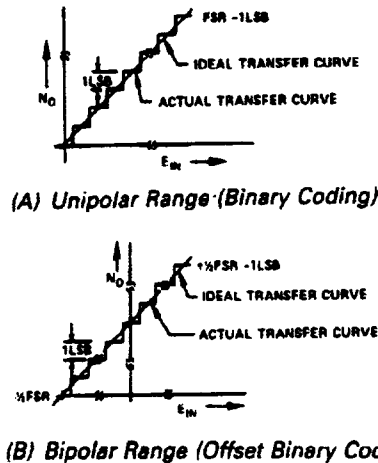

Figure 3. Unipolar and Bipolar Range Transfer Curves
The encoding process defined by the previous relations (1) and (2) or (3) and (4) determines that the analog input lies within one of the  $2^{12} = 4096$  quantization levels between 0 and  $FSR$  (or  $-FSR/2$  and  $+FSR/2$ ). Figures 3 (A) and 3 (B) show the actual device transfer curves for unipolar and bipolar ranges (offset binary coding). They also show the ideal straight-line transfer curves which pass through the center of each quantization level. As can be seen from these figures, the actual and ideal transfer curves differ by exactly  $\pm 1/2 \text{ LSB}$  at the end of each quantization interval, giving rise to the fundamental  $\pm 1/2 \text{ LSB}$  quantization error inherent in the digitizing process.